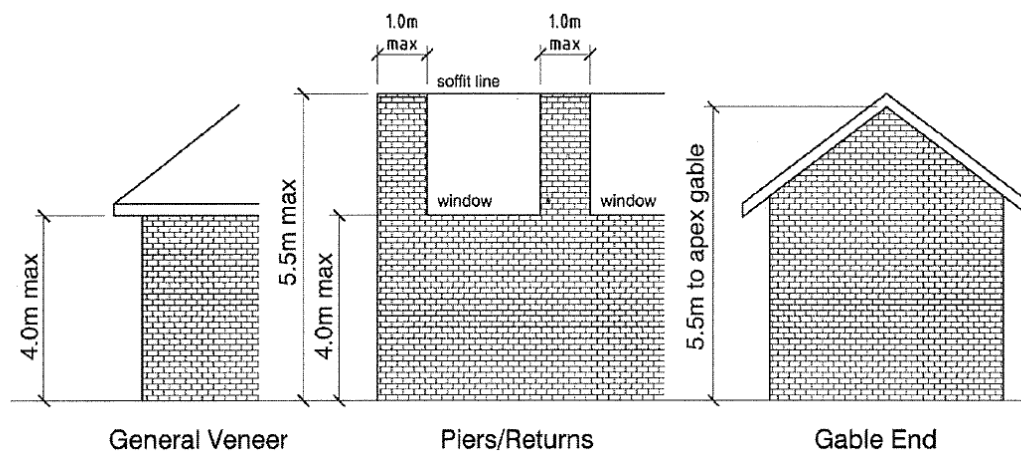

Figure 1 – Maximum veneer heights for single storey, stack-bonded construction
- Maximum veneer height of 4m for straight vertical panels and 5.5m to the apex of a gable or a pier as defined in this document (*Refer to figure 1*).
A gable end or pier may extend to 5.5m in height as per figure 1 above. A pier is defined as a brick panel not exceeding 1.0m in width.